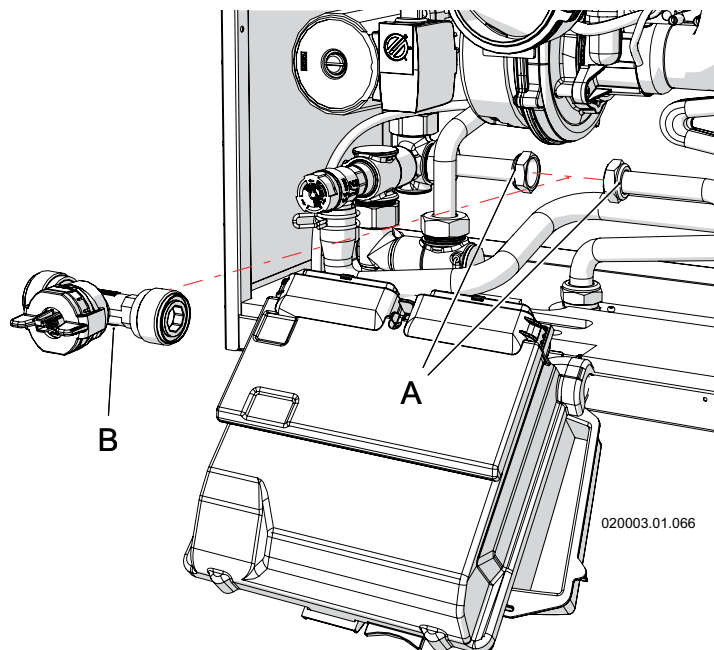

Figure 8-8 - Removing the flow meter
Proceed as follows, making reference to figure 8-8:
- 4.- disconnect the cables from the flow meter (detail "B" in figure 8-8);